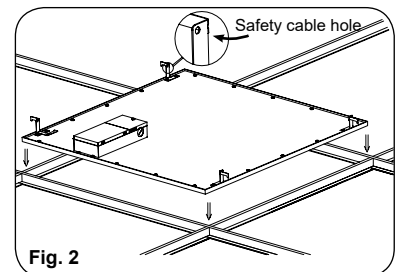

Fig. 2
3. Insert luminaire into T-bar ceiling grid. Secure safety cable to connection hole as needed to meet local seismic requirements. (Fig. 2) Safety cable and method of attachment to the building is established by contractor according to local building codes.